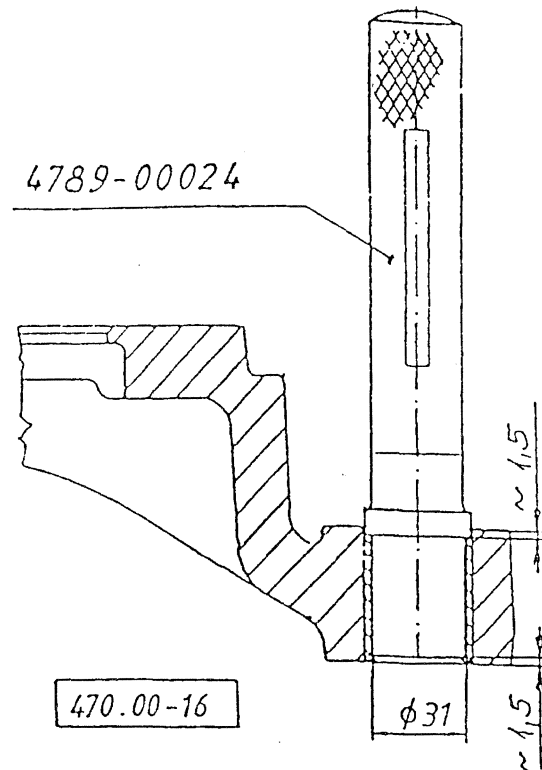

Fig. 1.: PRESSING THE BUSHING IN AND OUT
If the anchor pin bushing (13) are to be replaced, use the tool shown (**Fig. 1**).